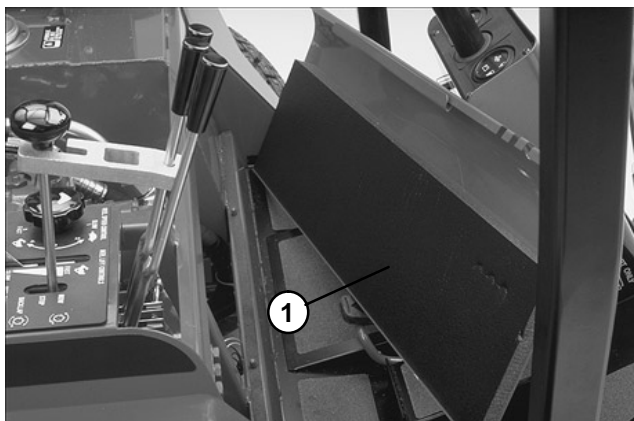

Figure 7
3. Lift and remove front panel (Fig. 7).